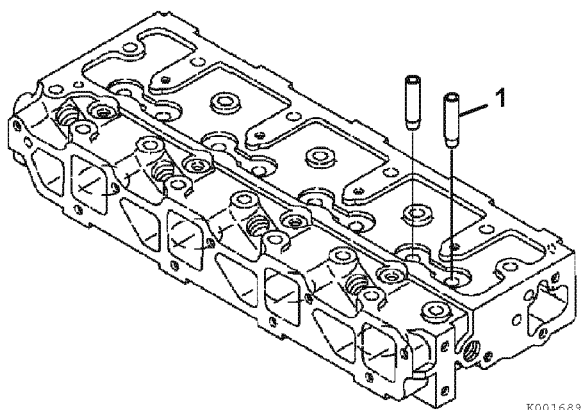

Figure 6-28
2. Immediately after removing the valve guides from the freezer, insert the valve guides (1, **Figure 6-28**) in their proper positions.